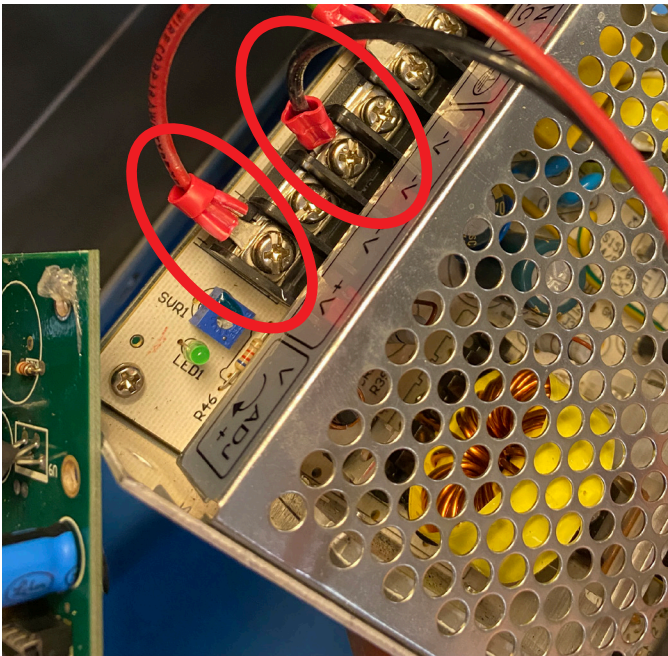

FIGURE 12
9. Remove the Red and Black wires from the power supply at -V and +V (see Figure 12).